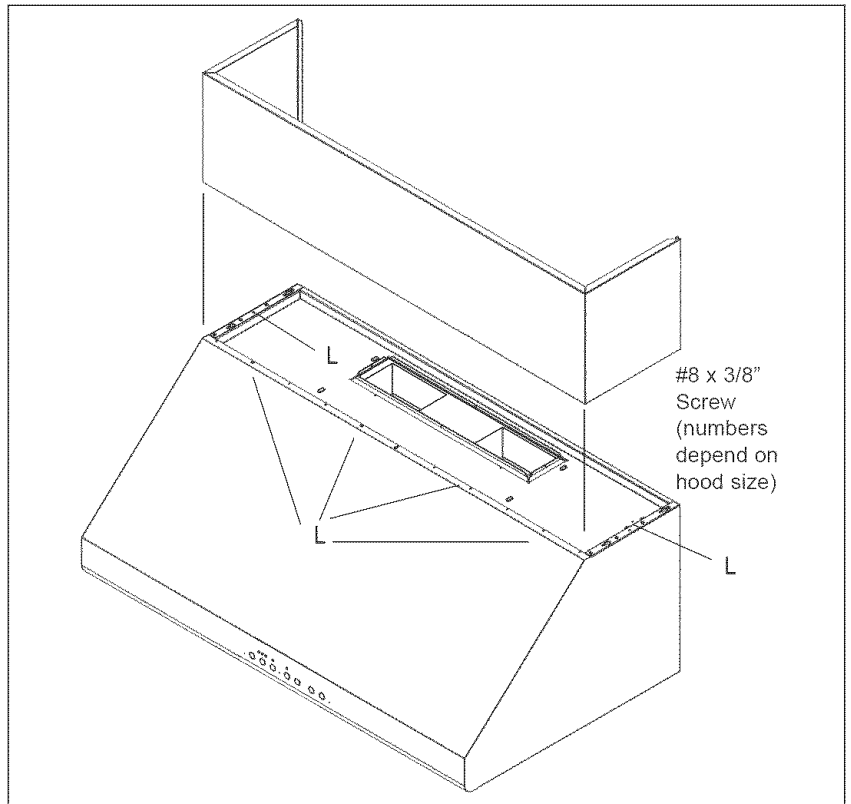

Figure 9
Optional duct covers shown in Figure 9 may be used to fill the space between the hood and ceiling in wall mount installations. 6" and 12" high duct covers are available and may be ordered separately.
2. Attach the duct cover(s) to the hood using sheetmetal screws as shown in Figure 9.